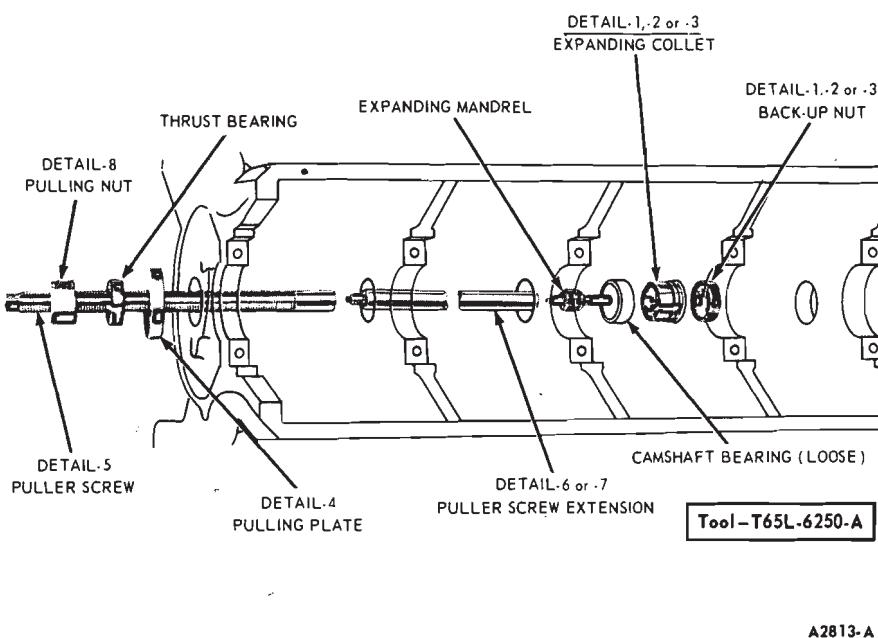

FIG. 48—Replacing Camshaft Bearings
6. Position the new bearings at the bearing bores, and press them in place with the tool shown in Fig. 48. Be sure to center the pulling plate and puller screw to avoid damage to the bearing. **Failure to use the correct expanding collet can cause severe bearing damage.** Align the oil holes in the bearings with the oil holes in the cylinder block when the bearings are installed. Be sure the front bearing is installed the specified distance below the front face of the cylinder block.